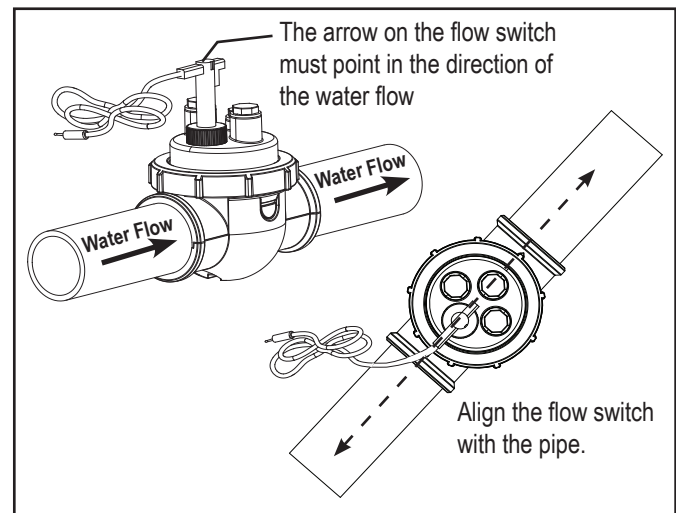

Figure 3. Replacing the Flow Switch
5. Install the new flow switch making sure the arrow on the flow switch points in the direction of the water flow. Make sure the switch is in line with the pipe (see Figure 3).